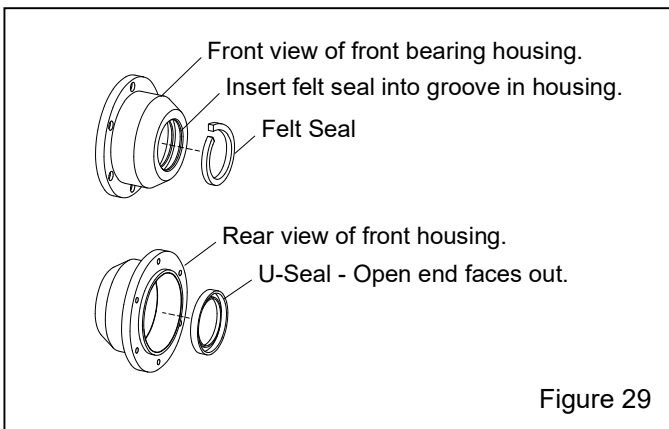

Figure 29
**9.3.1** Place a liberal amount of 10 weight oil or machine oil on the felt strip and insert the strip fully into the groove in the front bearing housing, as shown in the upper illustration in Figure 29. Make sure the strip is fully inserted into its groove and that the ends are compressed together for a full seal.